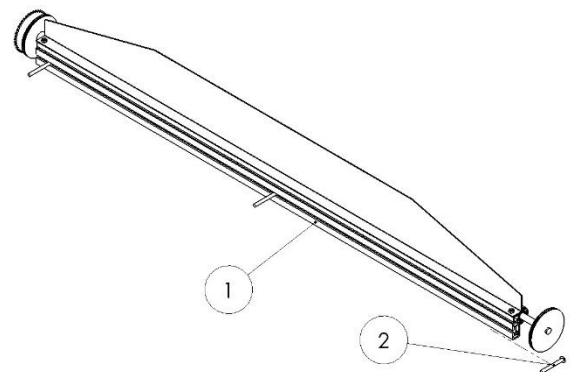

Figure 1.3
Slide the 3, 1/2"-13 x 4-1/2" carriage bolts (2) that are provided into the slot located on the back of the kbar (1) and space them, so they align with the holes that were previously drilled on the dump box. (Fig. 1.3)